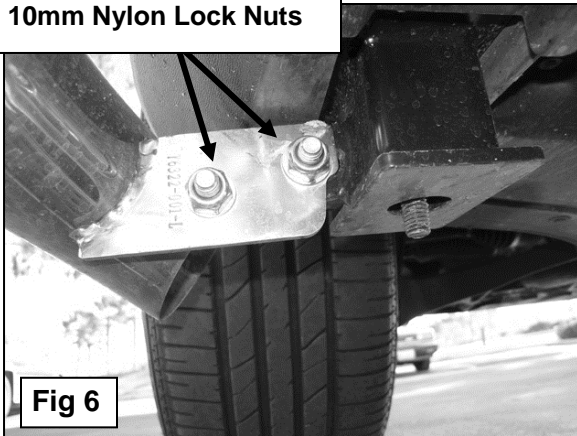

Fig 6
- Select the Driver Sidebar and loosely attach it to the Mounting Brackets with the included (4) 10mm x 30mm Hex Bolts, (8) 10mm Flat Washers and (4) 10mm Nylon Lock Nuts, (**Figure 6**).